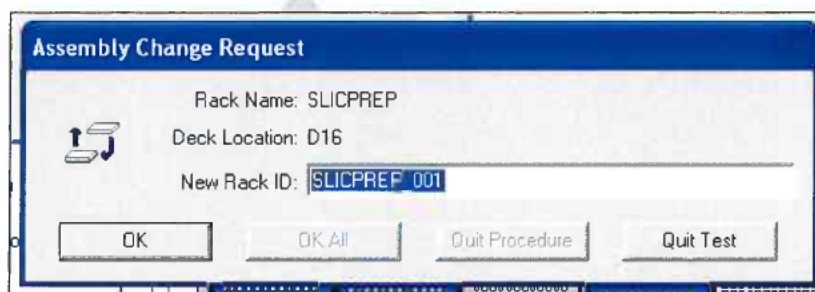

Figure 2. Scan batch ID request
24. The following message will appear (Figure 2 below):